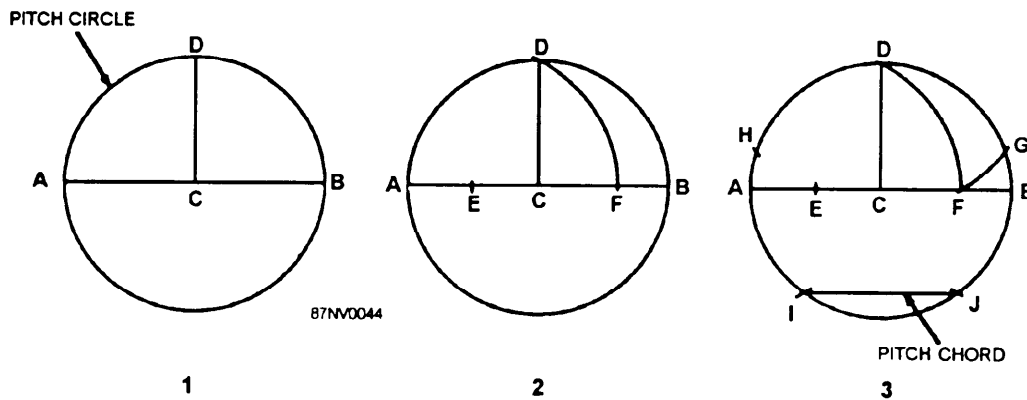

Figure 16-5.—Layout for a five-hole flange.
PROBLEM I—Lay out a five-hole flange. (See fig. 16-5.)
3. Develop the inner circle so that each quadrant or quarter-circle is equally divided into five parts. (See problem I and fig. 16-5 .)